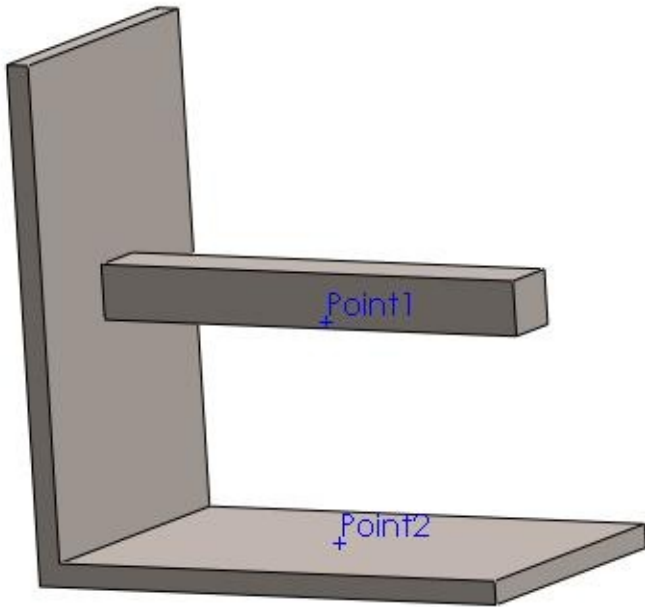

Figure-2. Model after applying material
- Click on the **Close** button from the dialog box to exit. The color of model will be changed; refer to Figure-2.